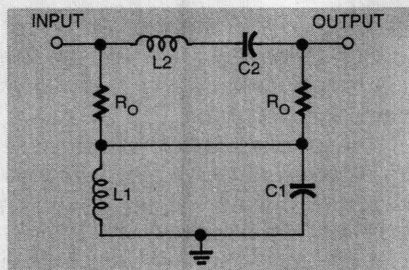

Fig. 10. Here's a practical bandpass diplexer design intended for use with mixers. Values are calculated using the equations in the text.
Diplexer Design. Figure 10 shows a practical bandpass diplexer design intended for use with mixers. The values of the R_O resistors is the system design impedance (50 ohms in most cases). The values of $L1$, $L2$, $C1$, and $C2$ are determined by the center frequency (f_o) of the desired pass band. The Q of the filter is f_o divided by the necessary bandwidth (BW). The values of these components for